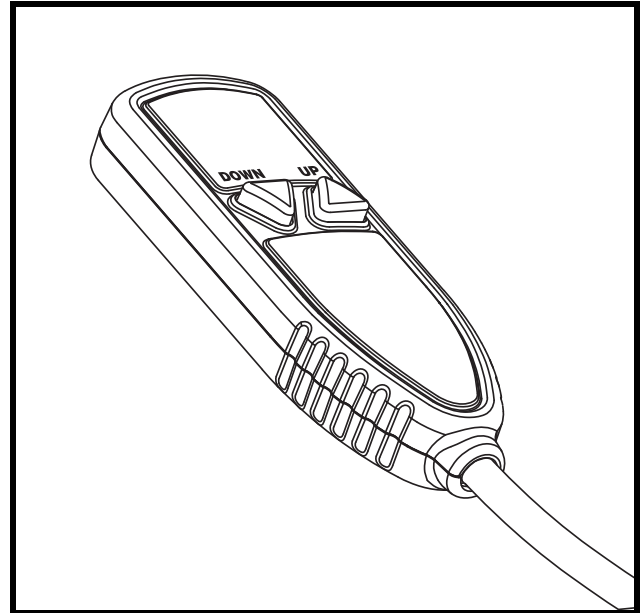

Figure 8. Hand Control
1. Press and hold the “DOWN” button. See figure 8. The lift will move out of the vehicle to its farthest forward stop, then lower to the ground. Once the platform has reached the ground, release the “DOWN” button.
6. Press and hold the “UP” button. See figure 8. The lift will move up to its highest lift point, then slide into the SUV or van. Once the mobility device is stowed completely within the vehicle, release the button.